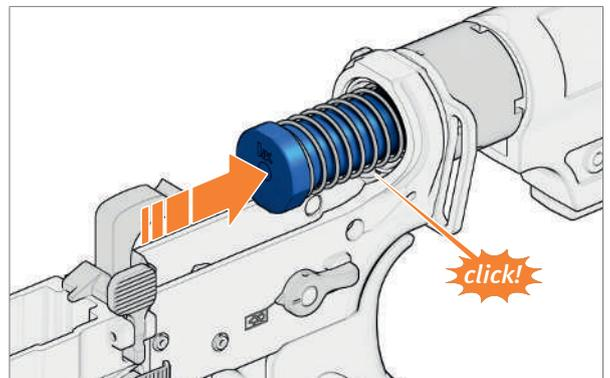

Fig. 124: Insert buffer with recoil spring into buttstock
2. Insert buffer with recoil spring into buttstock (Fig. 124).